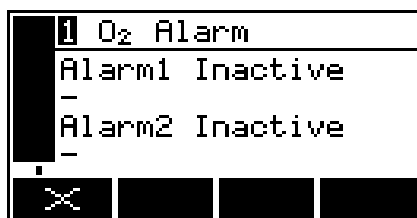

Figure 34 - The alarm status screen
1. On the measurement screen, press the  soft key; the alarm option screen (Figure 34) will then be displayed.
2. In the alarm status screen shown in Figure 34, both measurement alarms are shown as 'Inactive'; that is, either the mode of each alarm is set to 'none', or no alarm condition currently exists.